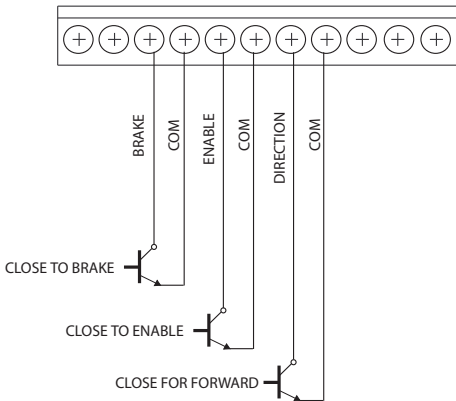

Figure 9. Open Collector Input
**Note:** In addition to dry contact inputs, the enable, brake and direction function also accept open collector inputs. Rated at 0.5 mA or greater. See Figure 9.